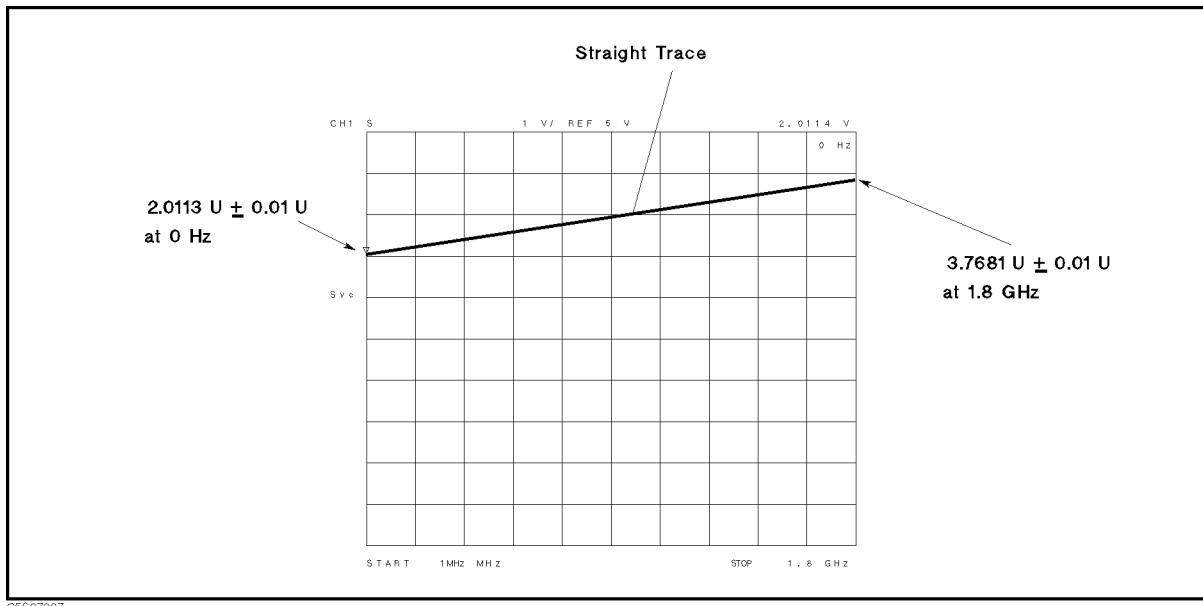

Figure 7-4. Typical FRAC N OSC Signal in Frequency Bus Measurement
- Check that the displayed trace is straight (see Figure 7-4).